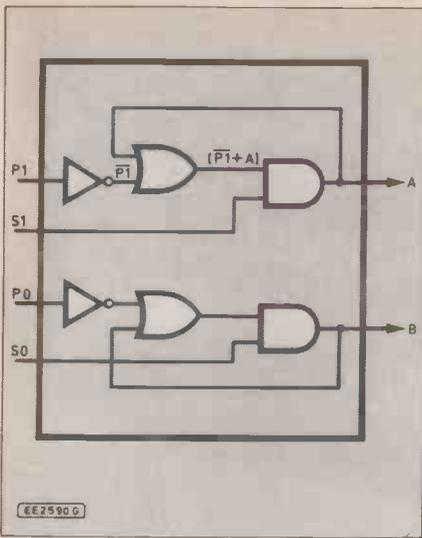

Fig. 7.8. First try at logic control — using  $\frac{1}{3}$  of 7404,  $\frac{1}{2}$  7408 and  $\frac{1}{2}$  7432.
**T** Exactly. And it won't come on until started by the button. In fact, we're making the whole circuit into a big bistable system (Fig. 7.8) and our equations become:  $A = (\overline{P1} + A).S1$   $B = (\overline{P0} + B).S0$